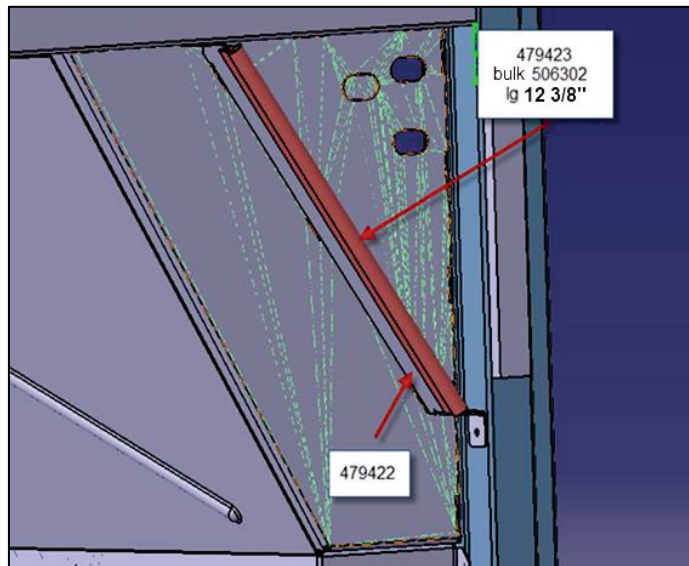

Figure 13
10. Add protector **#479423** and rubber trim **#479422** (12 3/8" long). (Fig. 13& 14)